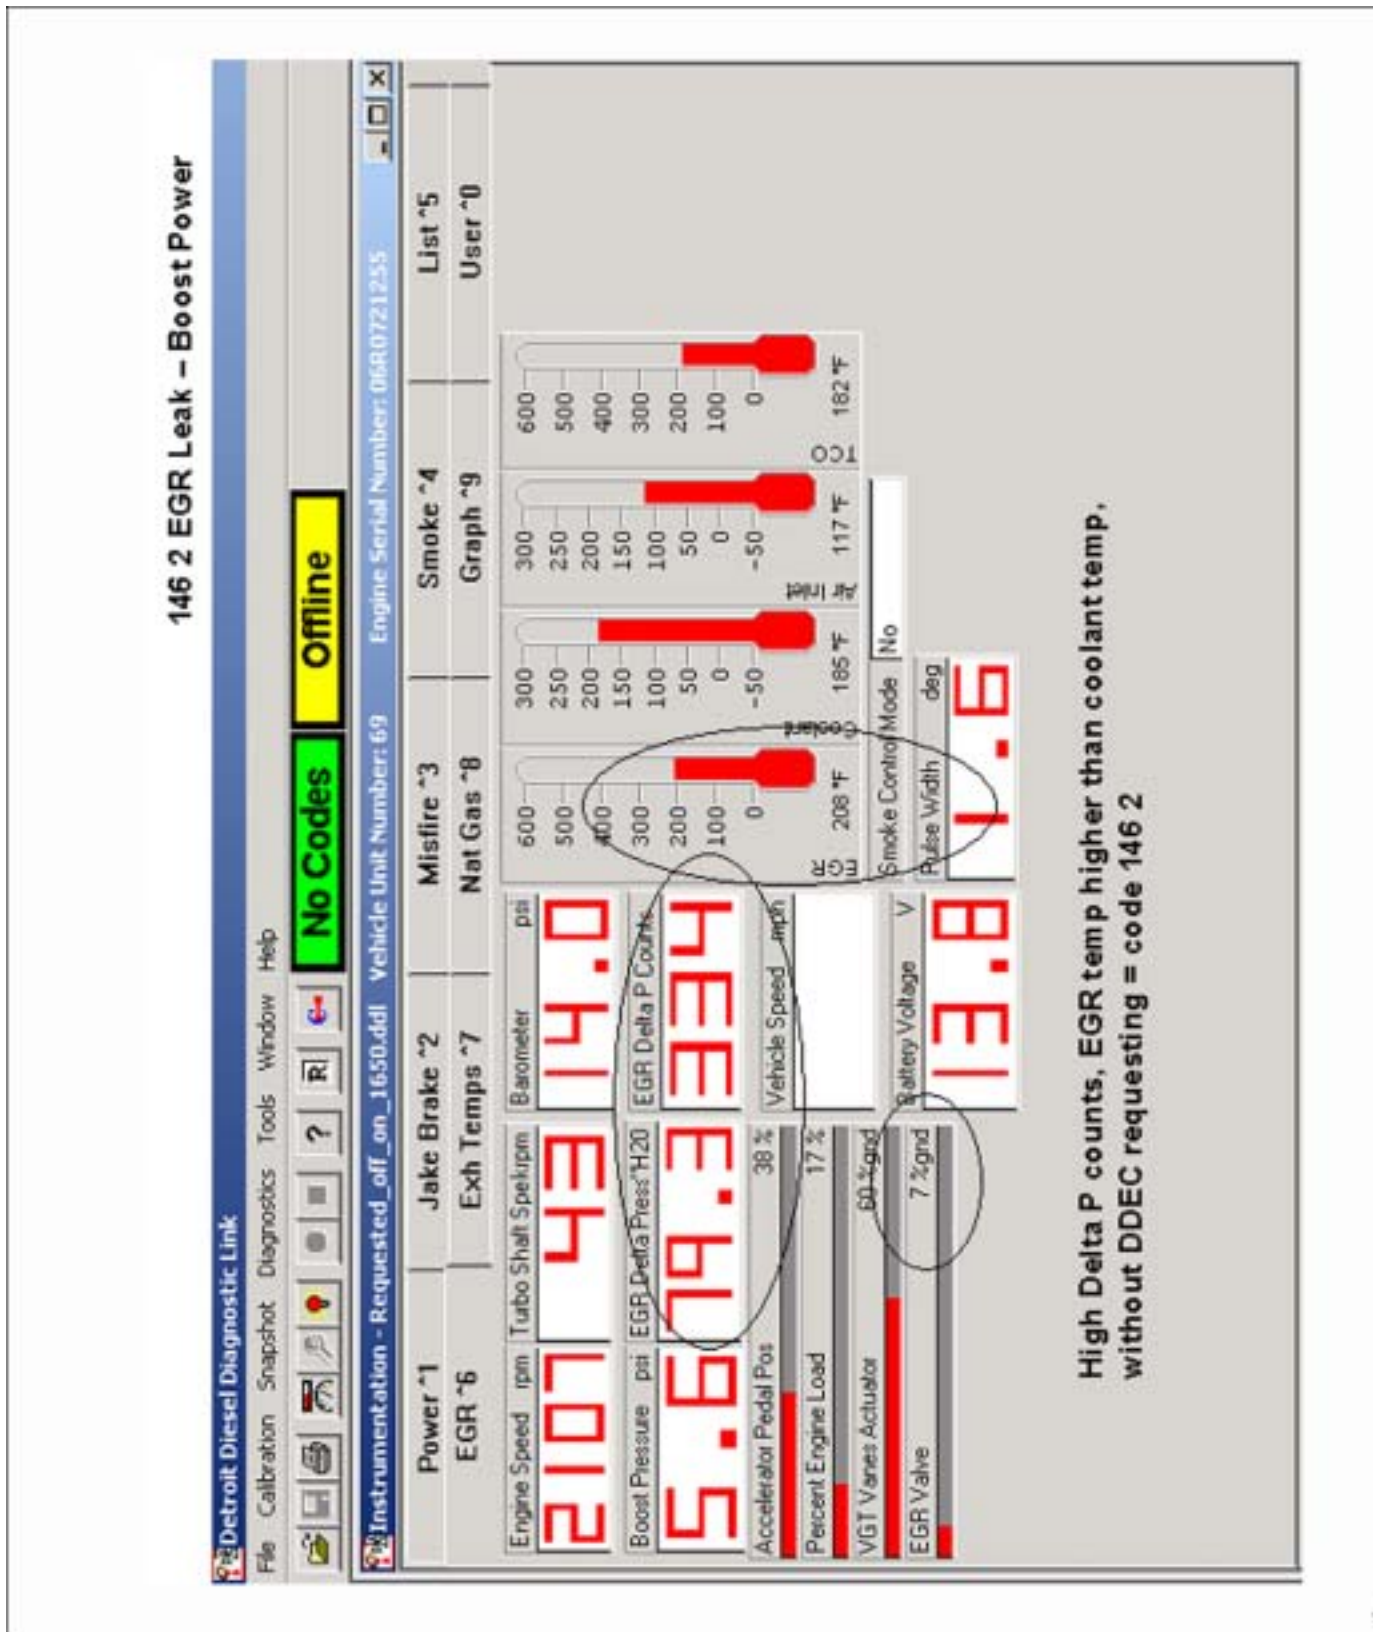

Figure 7-7 146 2 EGR Leak — Boost Power
- ☐ 146 2 EGR leak – boost. See Figure 7-7.